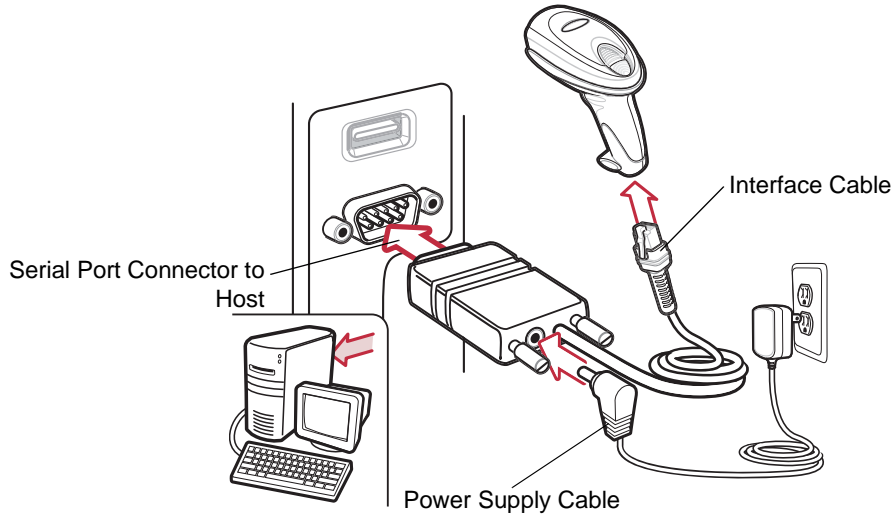
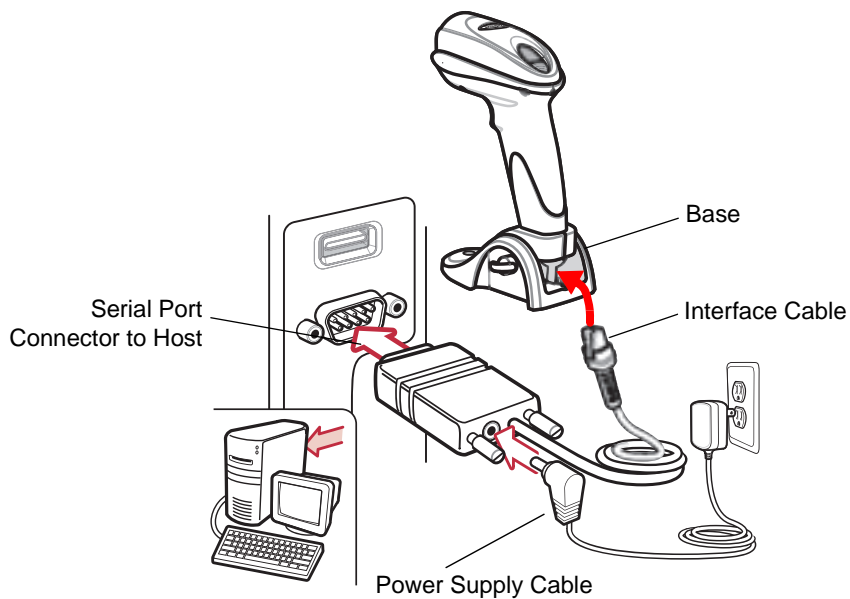

Figure 8-1 RS-232 Direct Connection
Figure 8-2 RS-232 Direct Connection for Scanner with Base
- ✓ **NOTE** Interface cables vary depending on configuration. The connectors illustrated in Figure 8-1 and Figure 8-2 are examples only. The connectors may be different than those illustrated, but the steps to connect the scanner are the same.